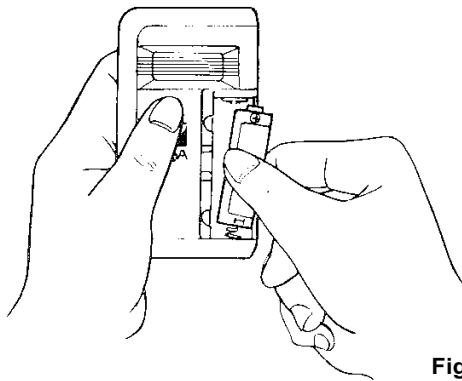

Fig. 2
2. Observing correct polarity instructed inside the battery compartment, insert a battery. (Fig. 2)